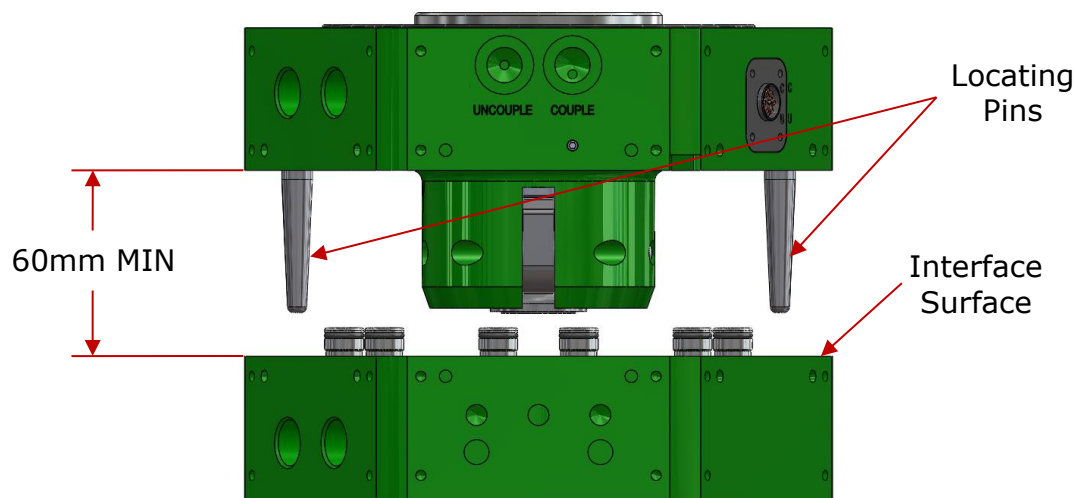

Figure 6.2-1. E125LP Tool Changer – Docking Orientation
1. Orient the Robot Side and Tool Side so that the centerline axes are aligned and the interface surfaces are parallel. Maintain approximately 60mm minimum separation between the Robot Side and Tool Side interface surfaces (Figure 6.2-1).